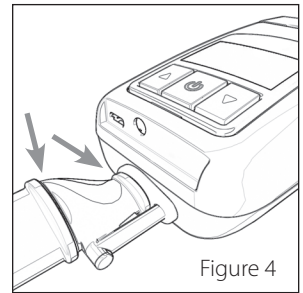

Figure 4
3. Ensure all connections are tight to avoid air leaks. (Figure 4)